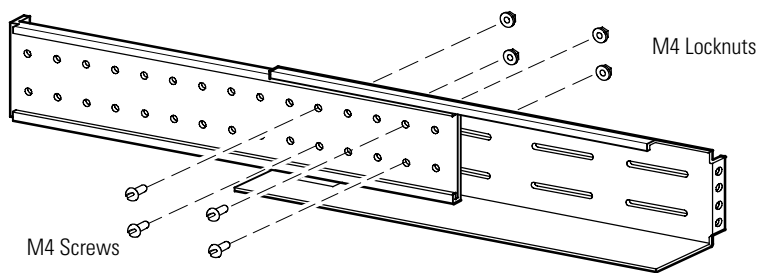

Figure 2. Tightening the Rail Adjustment (Right Rail Assembly Shown)
4. To tighten the rail adjustment, assemble four M4 machine screws and four M4 locknuts to the middle of the rail assembly. Tighten using a 7 mm (9/32") nut driver. See Figure 2.